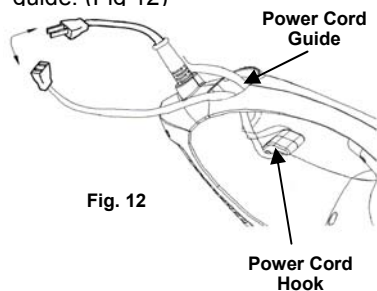

Fig. 12
3. Slip loop through power cord guide. (Fig 12)
4. Latch loop of power cord onto hook. (Fig. 12)